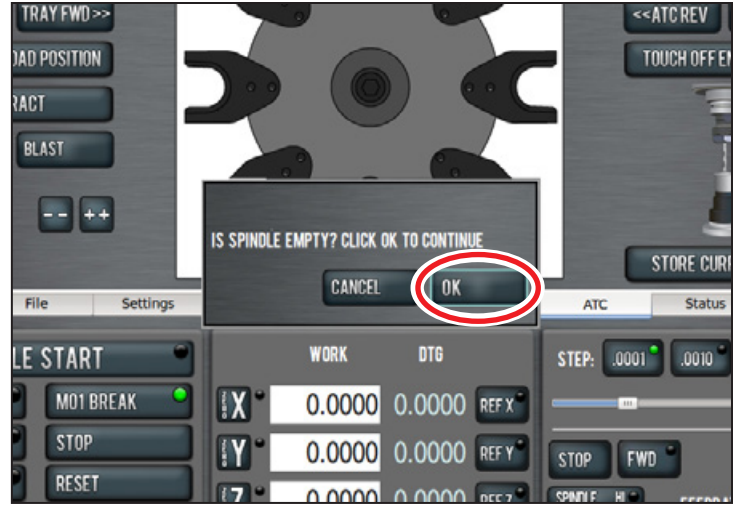

Figure 22
4. When prompted, click **OK** (see **Figure 22**).